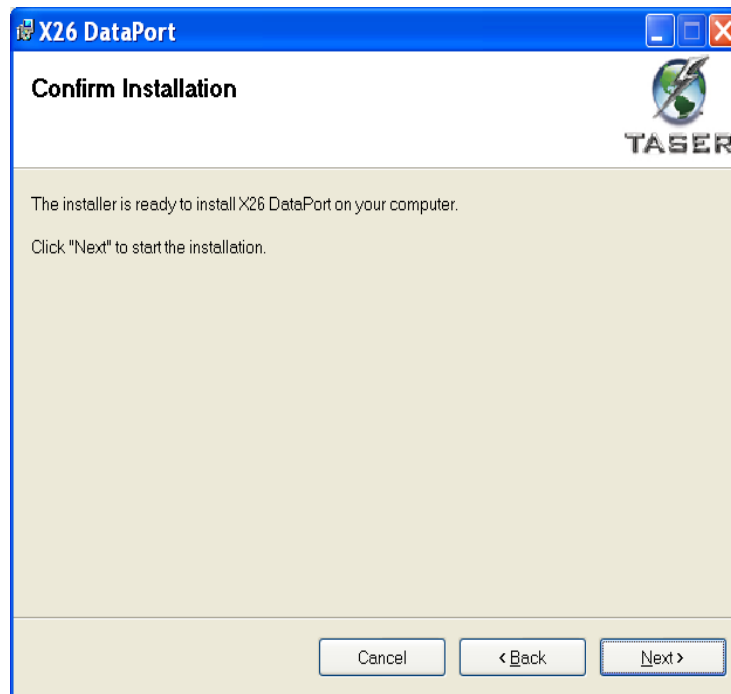
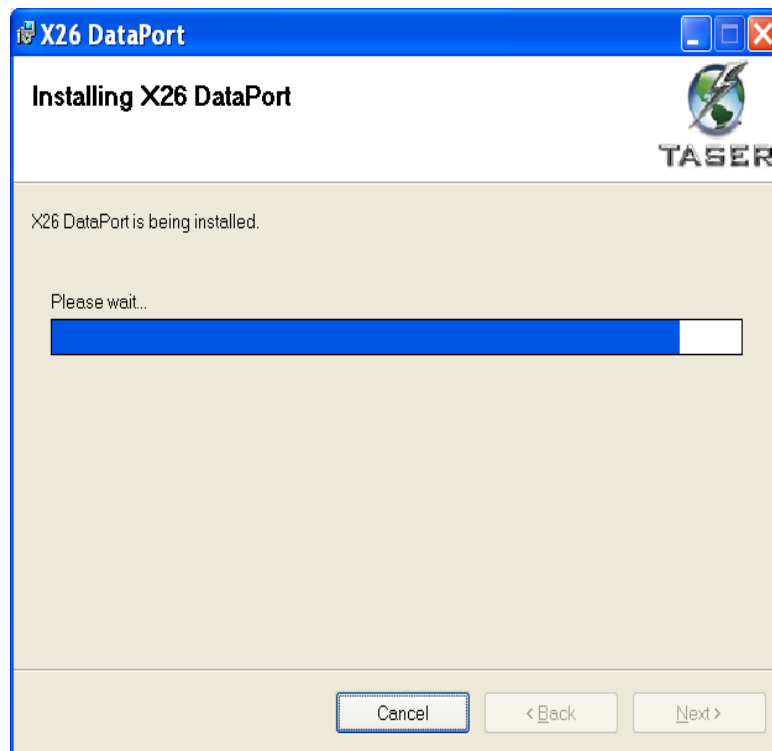

Figure 4
Figure 5
9. Click **Next** (Figure 4). The software will install (Figure 5).